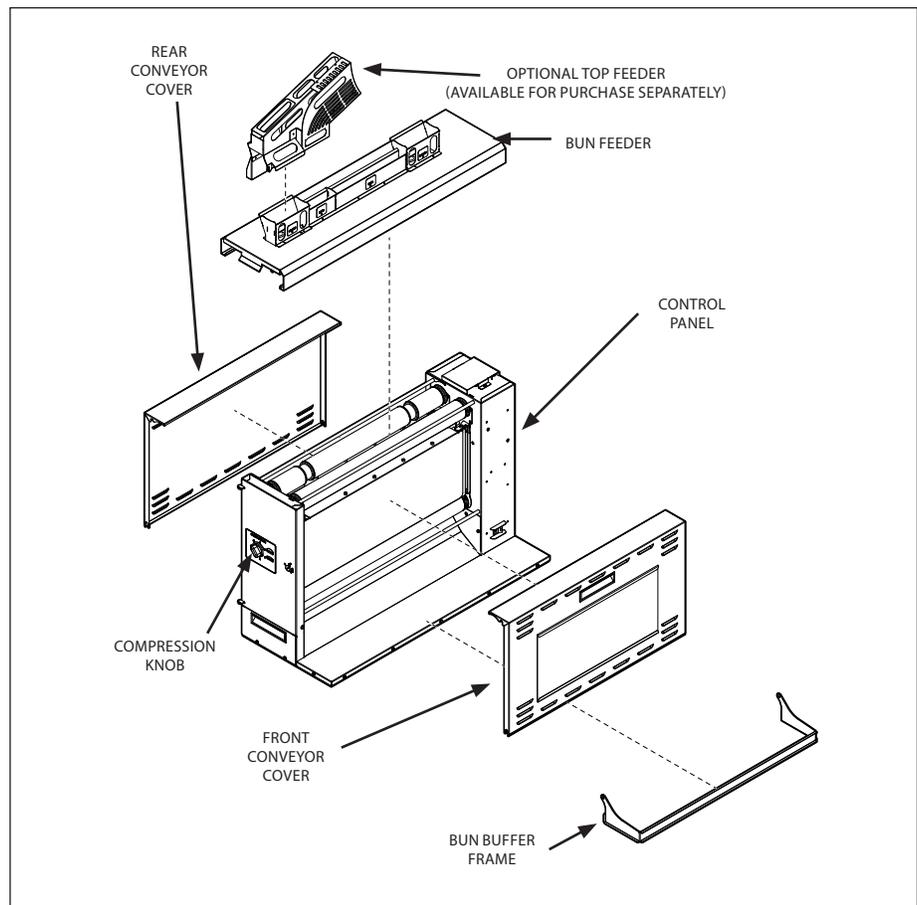

Figure 1. GST-5V Components (Belts not Shown)
2. Attach the Bun Feeder and Bun Buffer Frame accessories (Figure 1).
3. Attach the optional Top Feeder if present (Figure 1).